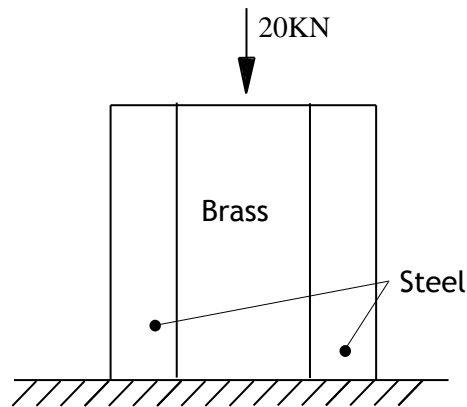

Fig Q7
7. A concentric vertical column consists of two columns each 100 mm high as shown in Fig Q7. The inner column is brass of cross section area 122 mm^2 and the outer hollow column is steel of cross section area 50 mm^2 . The column supports an axial load of 20 kN.